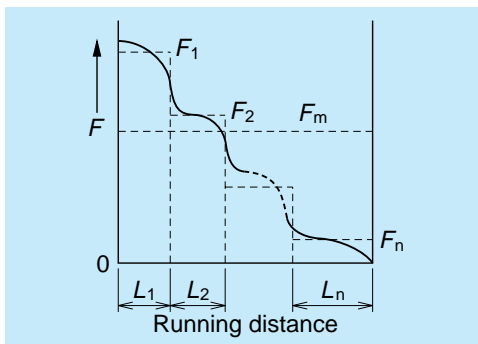

Fig. II-3*4 Variable load by phase
① **When load and running distance vary by phase (Fig. II-3*4)**